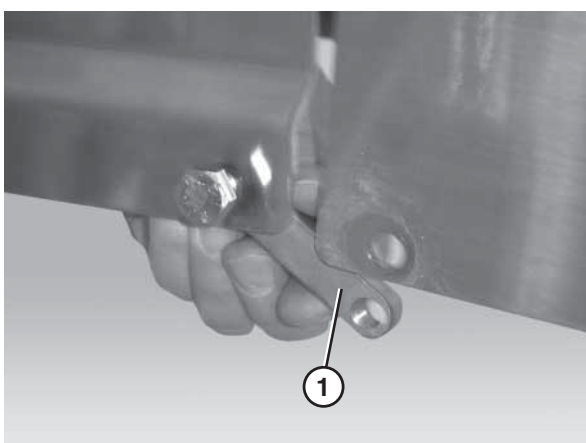

Figure 9
4. Attach the flat connectors (**Figure 9, item 1**), if applicable, to the inside of the frame sections.